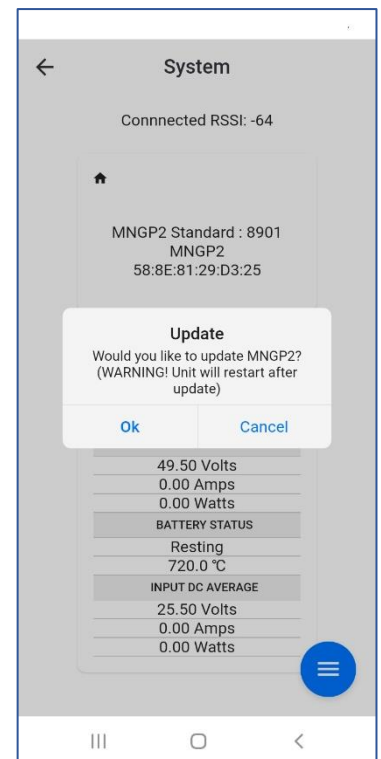

Figure 17
8. FW app will appear as shown in **Figure 17**, select OK.